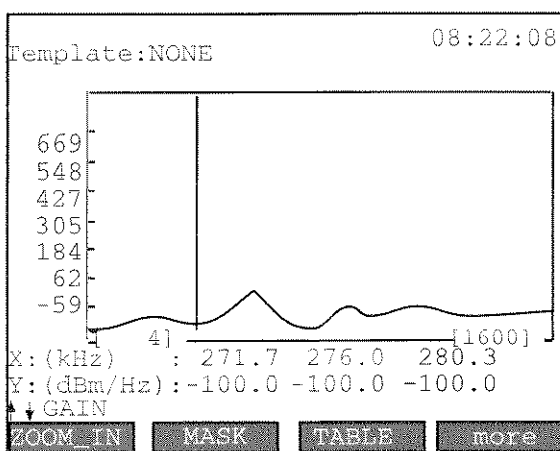

Figure 6-5 PSD Background Noise Results
7) The results are shown below in Figure 6-5.